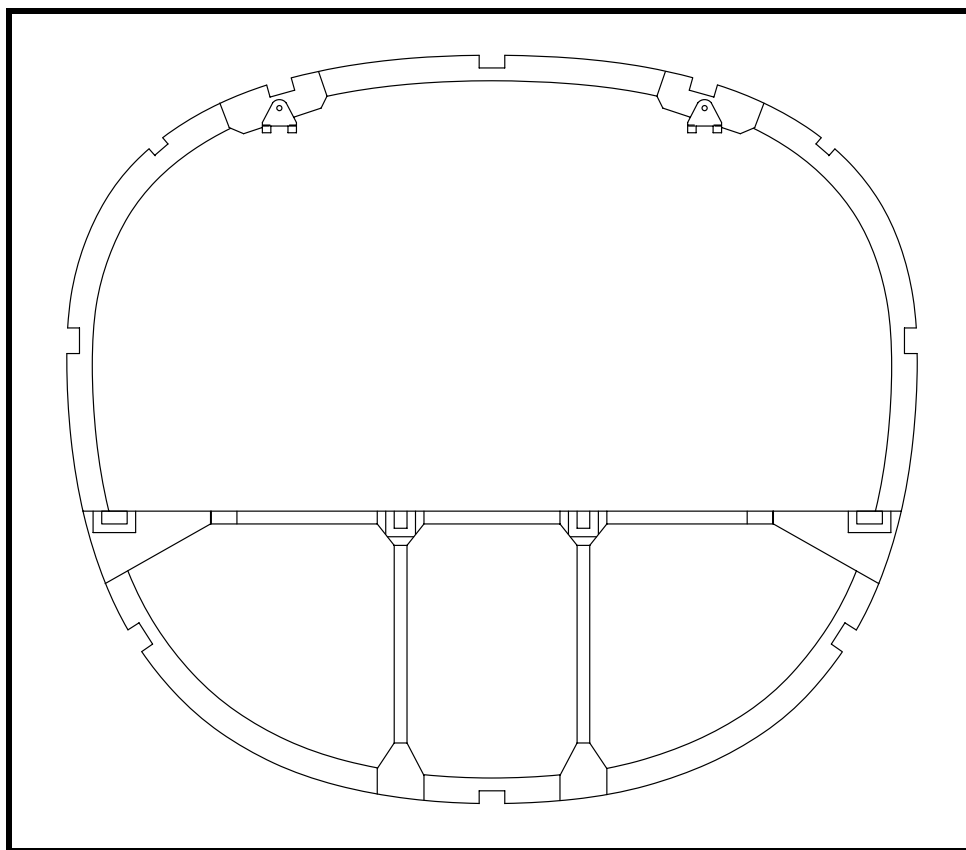

Figure 34
- ❑ Install P/N 735 fuel tank band mounts. See Figure 34, which shows the fittings on the forward face, but they are actually installed on the aft face. The fuel tank band mount installation is shown on Drawing No. 121, however drill the holes at the location shown in Drawing No. 312—to avoid interference problems between the shoulder belt supports and the fuel tank mount.